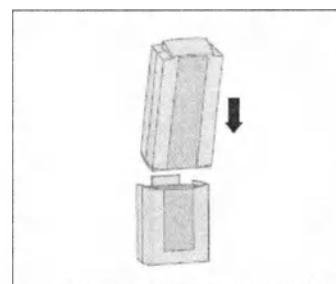

Figure 9. Attaching/removing battery to/ from charger
2. Place the lower end of the battery onto the wall mounted battery charger with the upper (lever) side of the battery slightly out from the bracket (see figure 9).